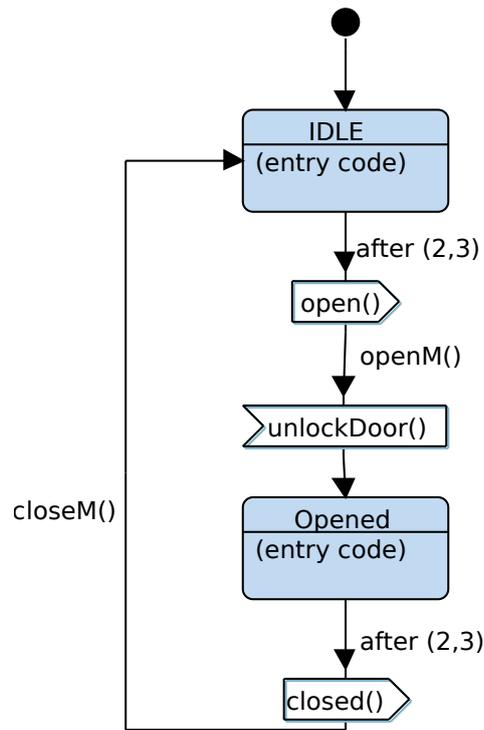

Figure 11: State Machine Diagram of the Door block
*openM()* method is closed. Also, each time the door is closed, the *closeM()* method is called (see Figure 11).